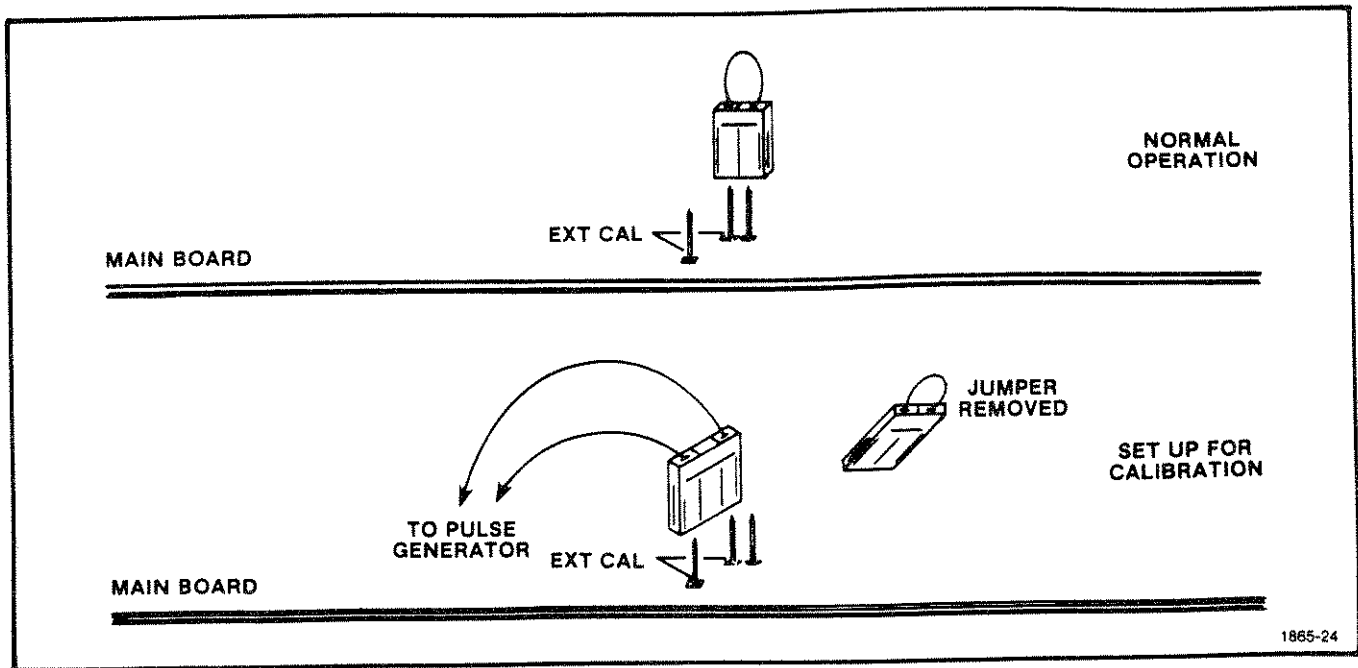

Fig. 4-6. External Calibration connection.
d. Connect the  $-$  OUTPUT from the PG 501 to the EXT CAL terminals on the Main Board (see Fig. 4-6).